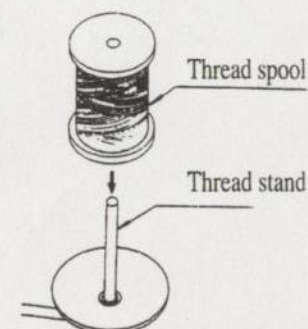

FIG.10
B. Using common thread spool, please take off the plastic cap and put the thread spool on the thread stand. (Fig.10)